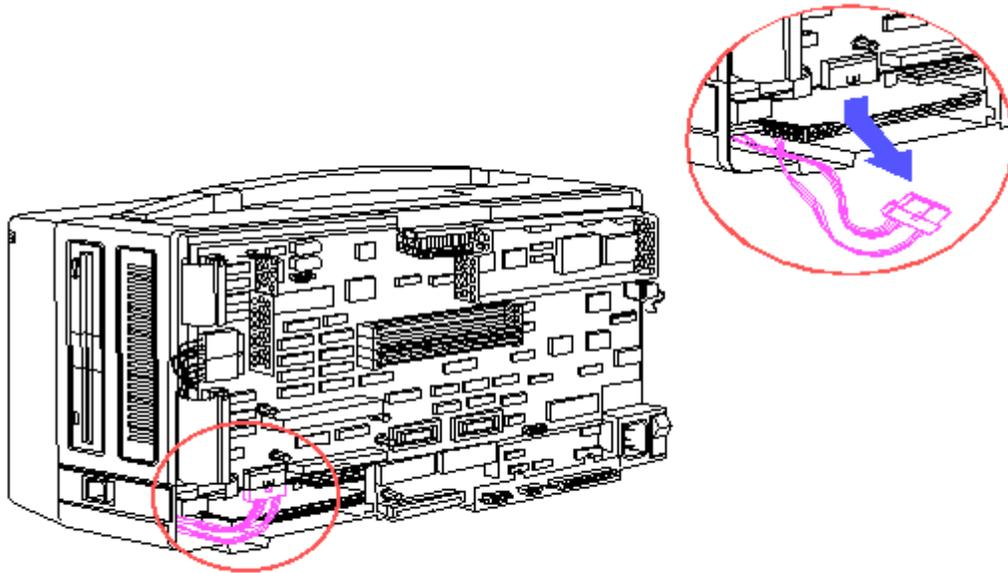

Figure 8-14. Disconnecting the LED/Speaker and Keyboard Cables
4. Press the top tab and disconnect the LED/speaker and keyboard cables from the system board (Figure 8-14).